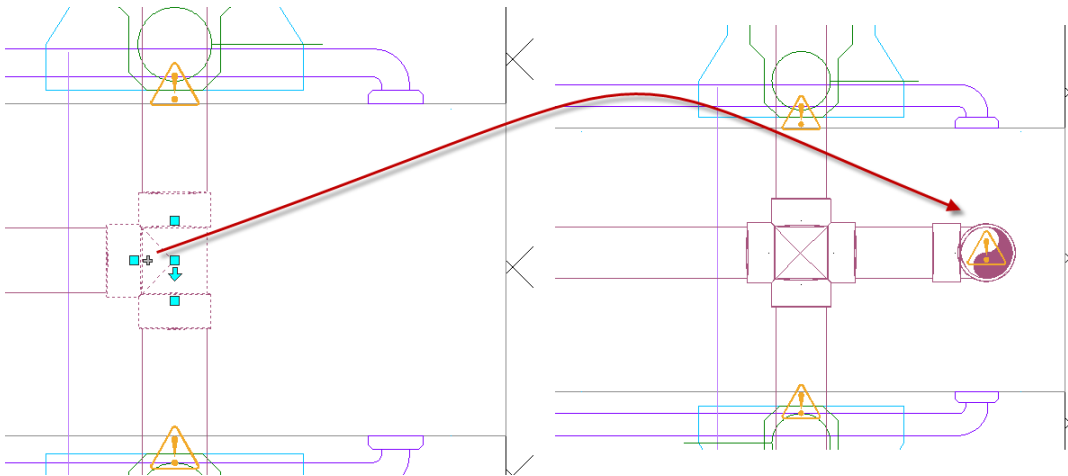

Figure 6.72
70. Change the elevation to: **12'-0"** to go to the next floor and then press ENTER (see Figure 6.72).